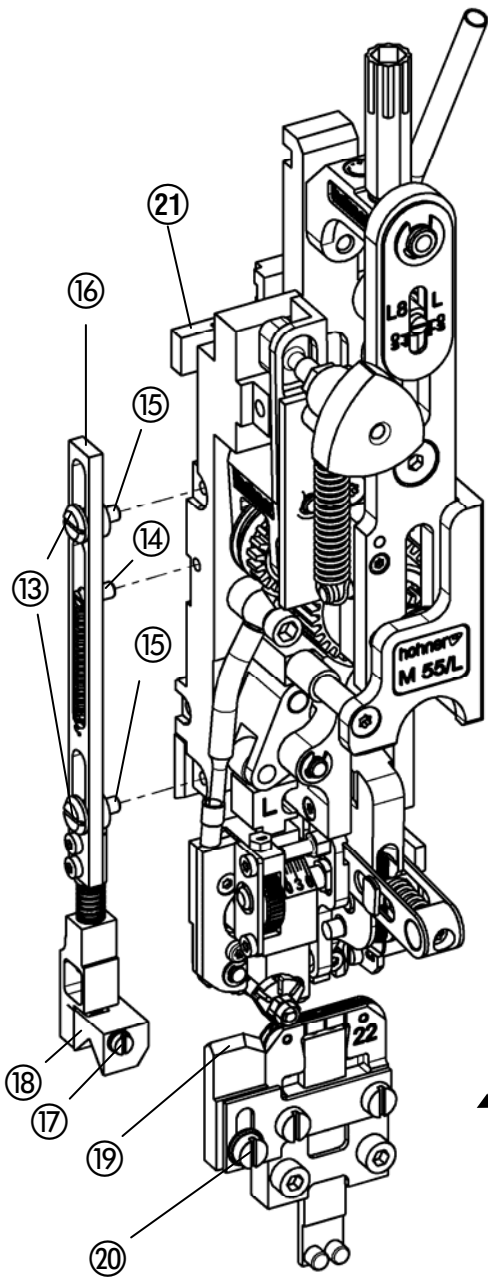

Fig. 16
- Set the centering prism ⑦ to the front or rear until it is exactly aligned with the prism guiding cam ⑧.
- Set the height of prism ⑧ (approx. 0.5 mm above the clincher box) by shifting the prism inside the oblong hole and tighten fastening screw ⑫.
- Fig. 16 – please see also Spare parts list/Options, page Opt. 7.
- Screw in spring bolt ⑭ in the bore hole on the stitching head to fit the centering device.
- Hang extension spring in spring bolt ⑭ and rods ⑮.
- Fasten centering device to the stitching head by screwing in fastening screw ⑬ with rods ⑮ and flange sleeve ⑯.
- For fitting the carrier ⑮ on the main slide please see Spare parts list/Option page Opt. 7
- Fig. 16 -